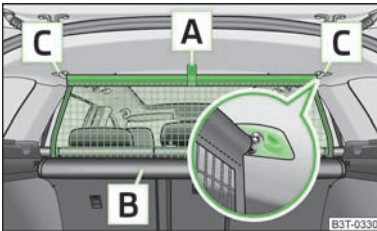
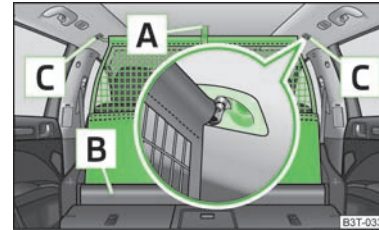

Fig. 79
Fig. 80
- Ensure that the cross rod is inserted into the mounts **C** » Fig. 79 or » Fig. 80 in the front position!
- Pull the net partition by the bracket **A** » Fig. 79 out of the housing **B** in direction of the holders **C**.
- First pull the cross rod back slightly on the one side and then on the other side and remove it from the mounts **C** » Fig. 79.
- Pull the net partition by the bracket **A** » Fig. 80 out of the housing **B**.